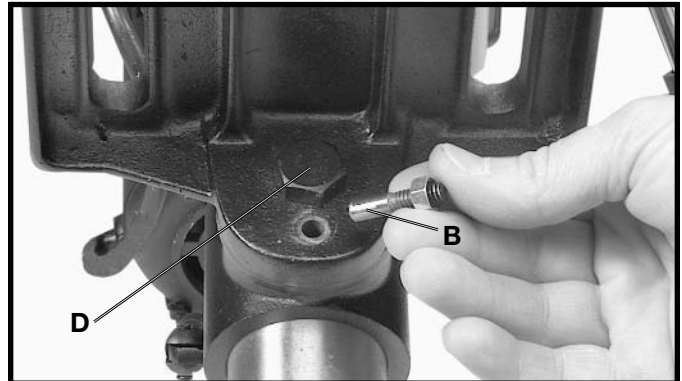

Fig. 19
3. Fig. 19, illustrates the table alignment pin (B) removed. Loosen table locking bolt (D), tilt table to the desired angle and tighten bolt (D). When returning table to the level position, replace table alignment pin (B). This will position the table surface at 90 degrees to the spindle.